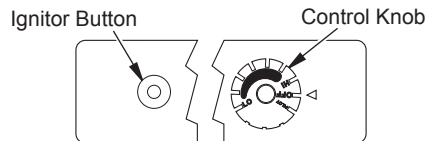

Figure 29 - Control Knob and Ignitor Button
4. Wait five (5) minutes to clear out any gas. Then smell for gas, including near the floor. If you smell gas, **STOP!** Follow "B" in the safety information, column 1. If you don't smell gas, go to the next step.
5. Turn control knob counterclockwise  to the PILOT position. Press in control knob for five (5) seconds (see Figure 29).